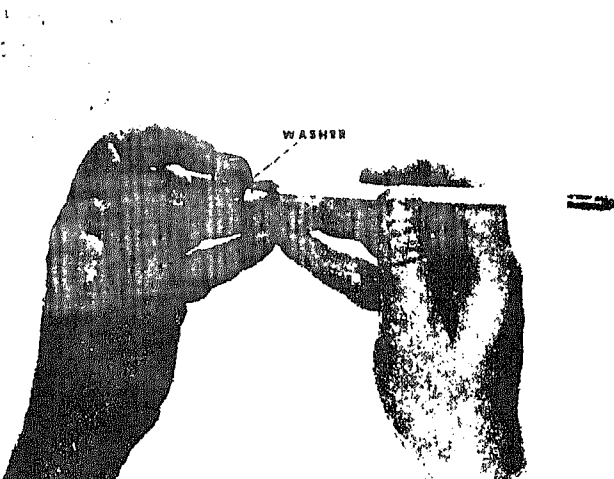

Fig. 507-4 Installing washer over plunger
1. PT (type G) Fuel Pump: Assemble screw into plunger guide, place small copper washer over screw point inside plunger guide. Fig. 507-4. Place small idle spring into plunger guide and place idle plunger (button) against spring in plunger guide. Fig. 507-5.